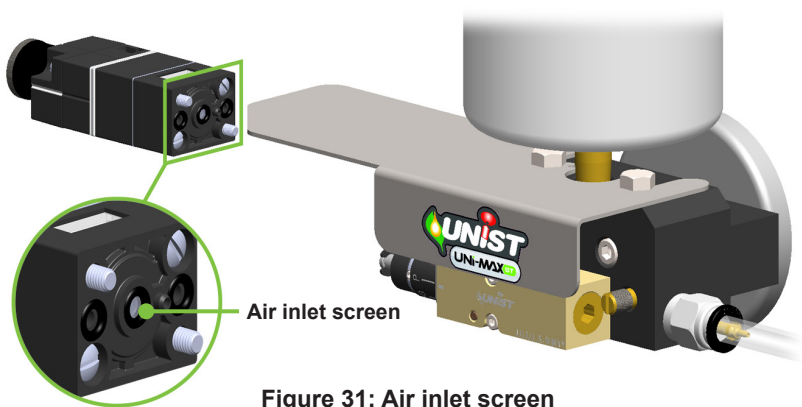

Figure 31: Air inlet screen
- If using a pneumatic pulse generator, inspect the inlet screen for debris and clean if necessary. See Figure 31 (pg. 36).